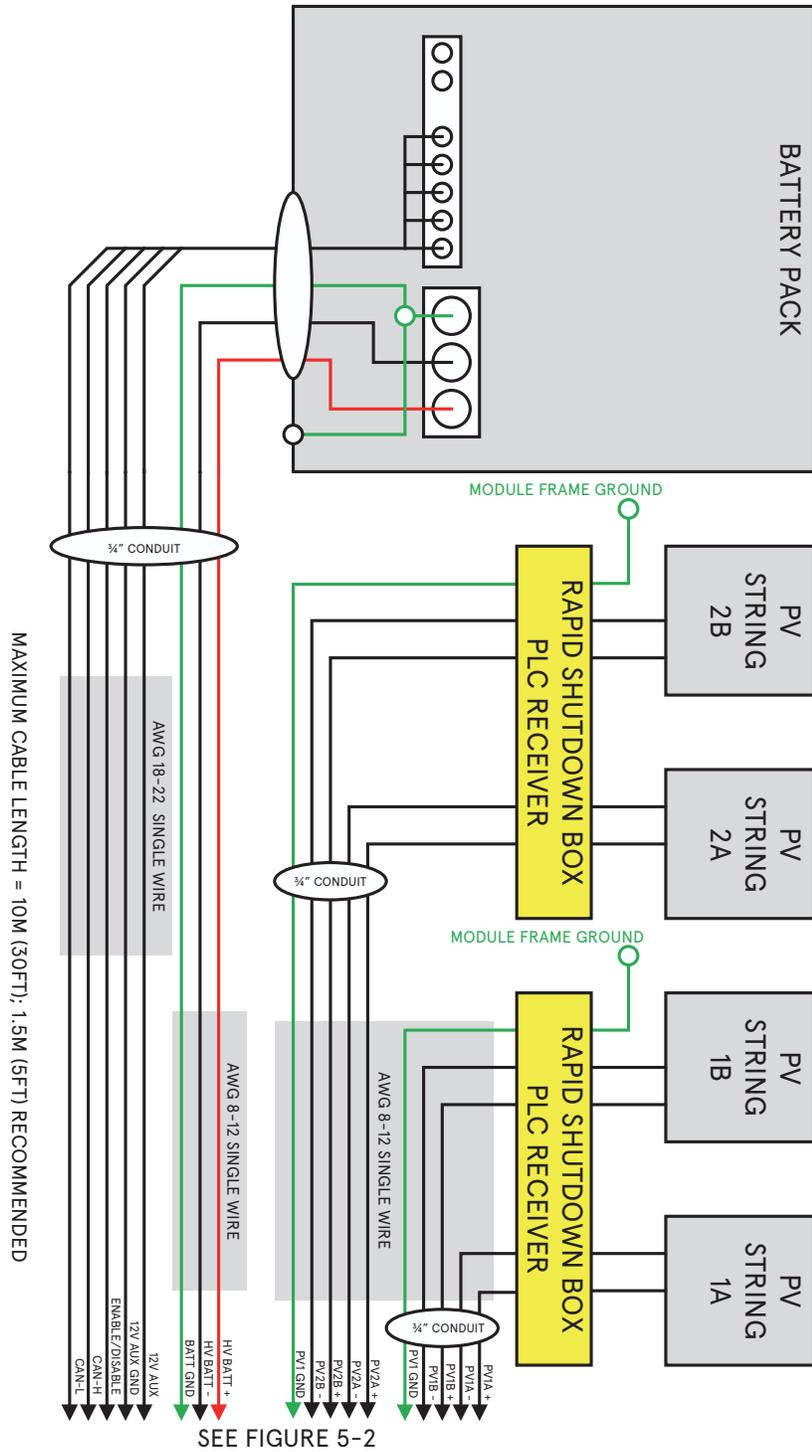
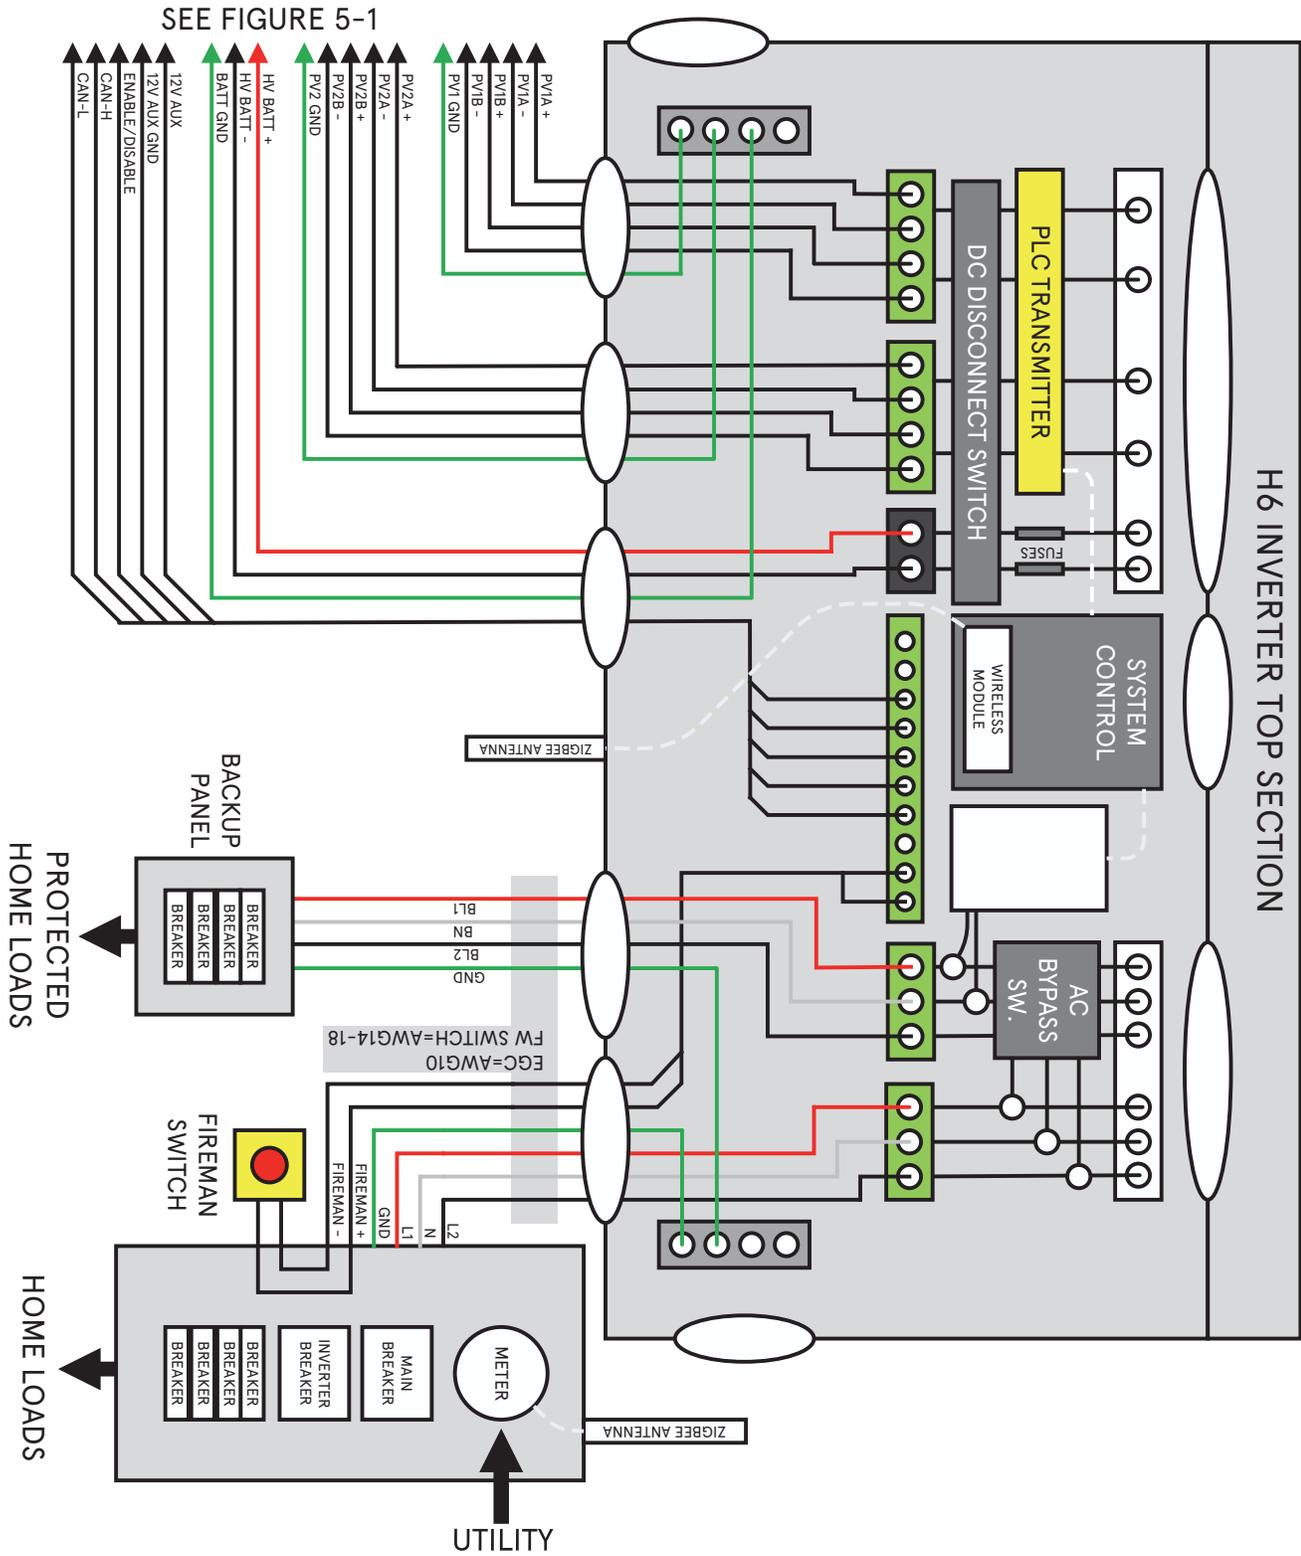

Figure 5-1: SolarCity H6 installation wiring diagram (1 of 2)
Figure 5-2: SolarCity H6 installation wiring diagram (2 of 2)
Figure 5-1 and Figure 5-2 display wiring diagrams for a complete SolarCity H6 inverter installation.
4. Use a 5mm Allen ratchet to remove the four (4) cover screws, as shown in *Figure 5-1* (callout 1). Do not remove the screws all the way.
3. Route the wire to the correct connector, as shown in *Figure 1-2*, *Figure 3-11*, *Figure 5-1*, and in "*Inverter Wiring Box*" on page 27.